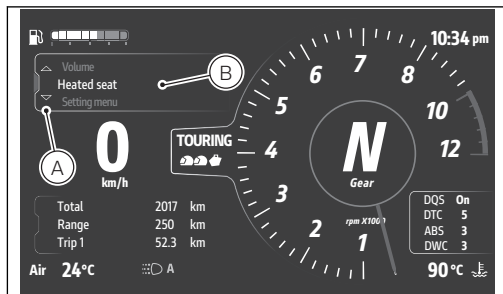

Fig 177
- Select the Interactive Menu (A, Fig 177) by pressing and holding the joystick in ▲ position for a long time.
- Use joystick ▲ ▼ to select “Heated seat” (B, Fig 177) and press ENTER.